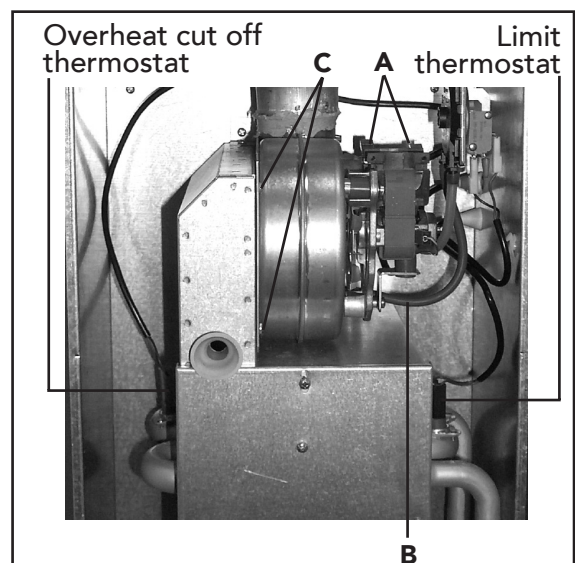

Fig. 27
## **Removal of fan** (fig. 27)
## **Limit thermostat, or overheat cut off thermostat** (fig. 27)
- Identify the location of thermostat from fig. 27